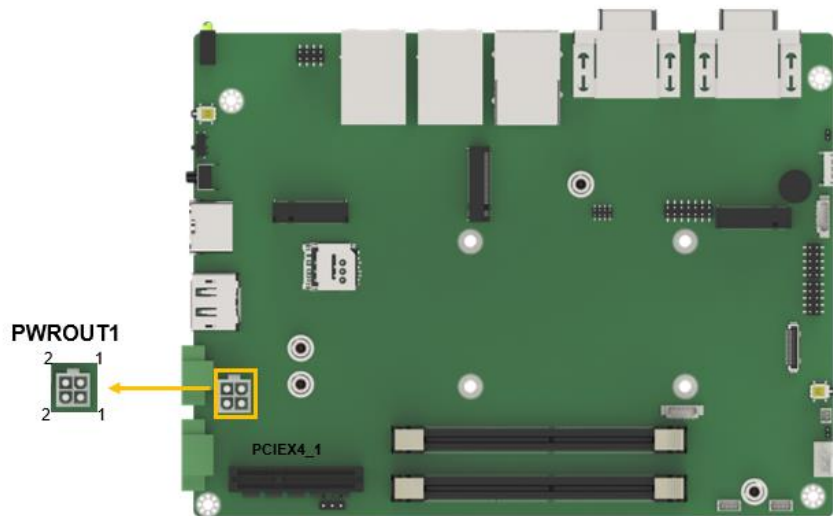

Figure 4-14: 12V Power Output Connector Location
- CN Location:** See **Figure 4-14**